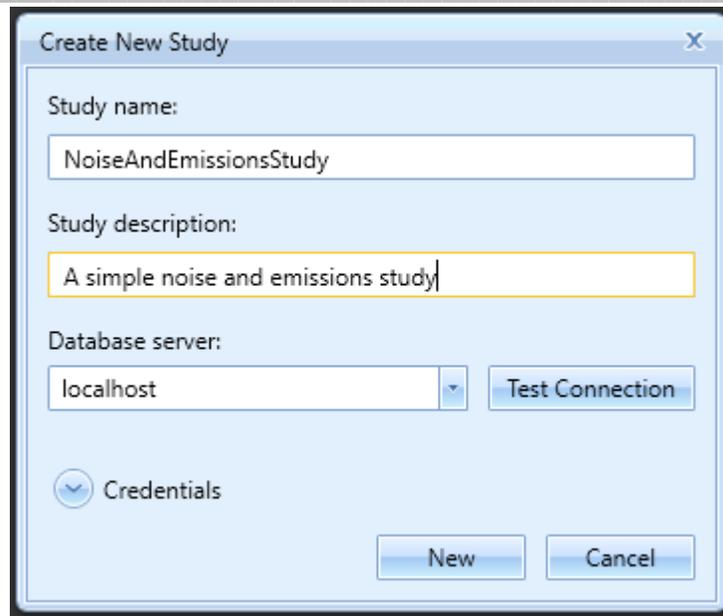

Figure 3- Create New Study
5. Click *New* to create a new study (Figure 3).